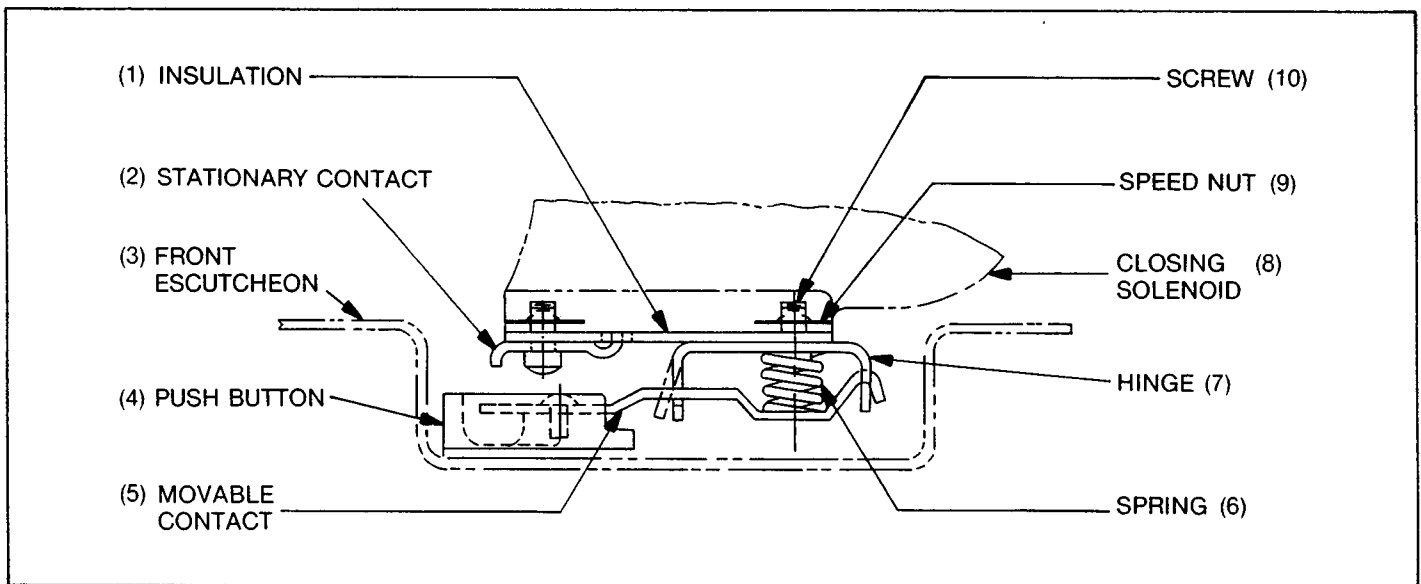

Fig. 10. Closing switch (top view)
### Closing Switch (Fig. 10)
The closing switch is mounted on the upper flange of the closing solenoid coil. A hole in the escutcheon (3), Fig. 10, permits access to the switch button (4). When the button is pressed, movable contact (5) deflects and impinges upon stationary contact (2). This energizes the "K" relay coil which seals itself in, and, in turn, energizes the closing solenoid.
1. Remove escutcheon (3), Fig. 10.
3. Deflect the left end of hinge (7) to the left so that the movable contact (5) may be disengaged from the switch assembly.
4. Removal of the two screws (10) from speed nuts (9) completes the disassembly of the switch.
5. Reassembly with new parts is a matter of reversing the described procedure. In reassembling, be sure the tab on the left end of hinge (7) is bent to the right far enough to avoid any possibility that movable contact (5) might become free of the assembly.